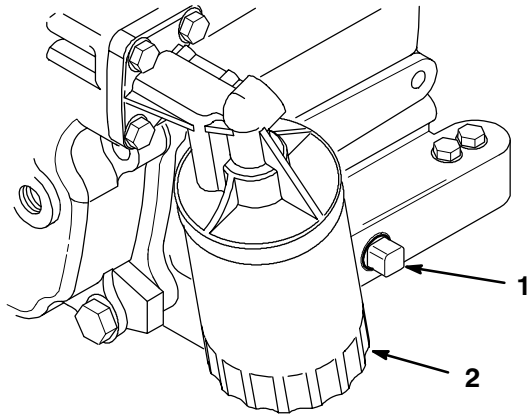

Figure 26
5. Remove the drain plug (Fig. 26) and let the oil flow into the drain pan. When the oil stops, reinstall the drain plug.
2. Remove the existing oil filter (Fig. 26). Apply a light coat of clean oil to the new filter gasket.